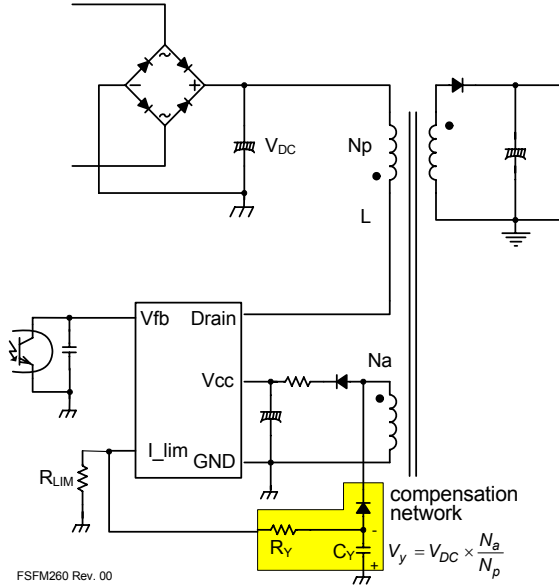

Figure 18. Constant Power Limit Circuit
2.3 Constant Power Limit Circuit: Due to the circuit delay of FPS, the pulse-by-pulse limit current increases a little bit when the input voltage increases. This means unwanted excessive power is delivered to the secondary side. To compensate, the auxiliary power compensation network in Figure 18 can be used. R_{LIM} can adjust pulse-by-pulse current by absorbing internal current source (I_{FB}: typical value is 0.9mA) depending on the ratio between resistors. With the suggested compensation circuit, additional current from I_{FB} is absorbed more proportionally to the input voltage (V_{DC}) and achieves constant power in wide input range. Choose R_{LIM} for proper current to the application, then check the pulse-by-pulse current difference between minimum and maximum input voltage. To eliminate the difference (to gain constant power), R_y can be calculated by: